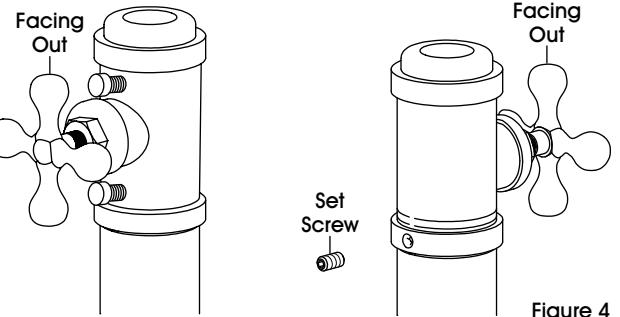

Figure 4
- Tighten set screws using Allen wrench to lock adjustable connectors in place. (See Figure 4)